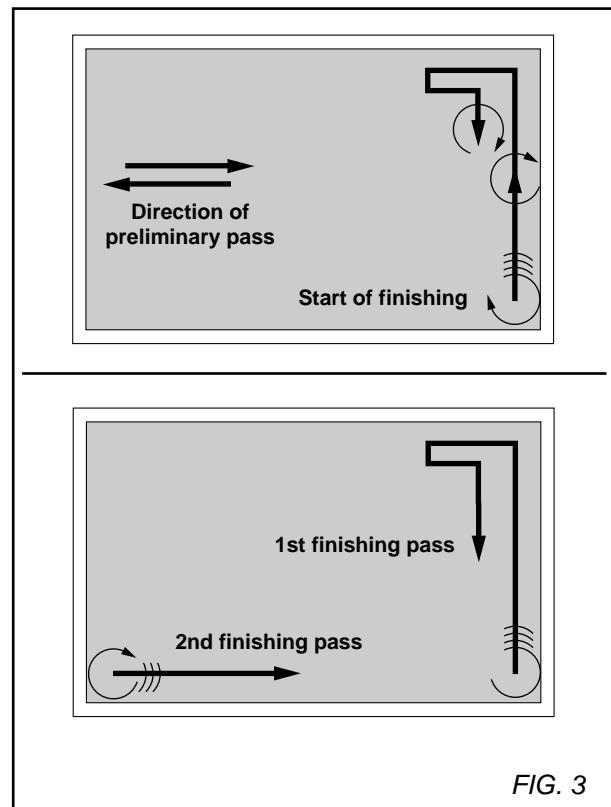

FIG. 3
- Each pass should overlap the preceding pass by 1/2 a width to reduce the risk of an imperfect surface finish. The finishing process is carried out after the preliminary work to obtain a dense, hard, flat surface [SEE FIG. 3].